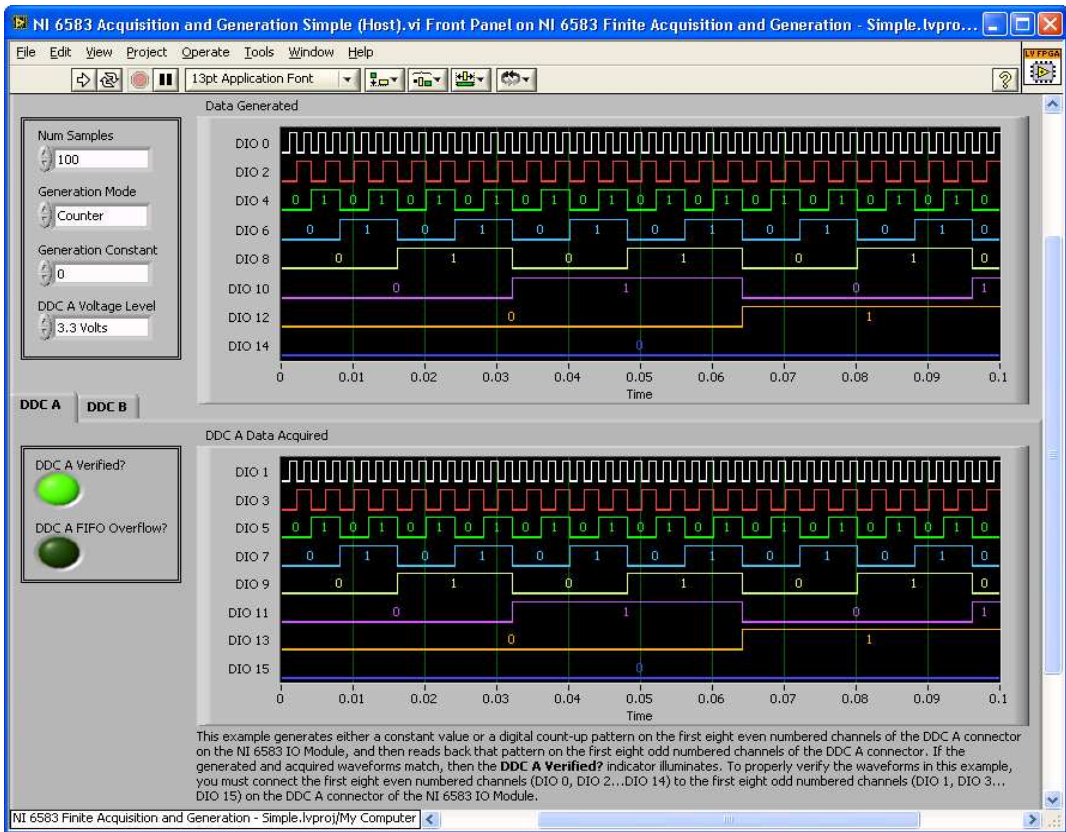

Figure 13. NI 6583 Acquisition and Generation Simple (Host) VI Front Panel
7. Click the **Run** button to run the VI. The NI 6583R generates a waveform on the even channels of your device and then acquires that waveform on the odd channels of your device. The front panel of the host VI displays both the generated and acquired waveforms, as shown in Figure 13. Use the **DDC A** and **DDC B** tabs on the left side of the front panel to toggle between connectors. If the generated and acquired waveforms match, then the **DDC x Verified?** indicator illuminates.